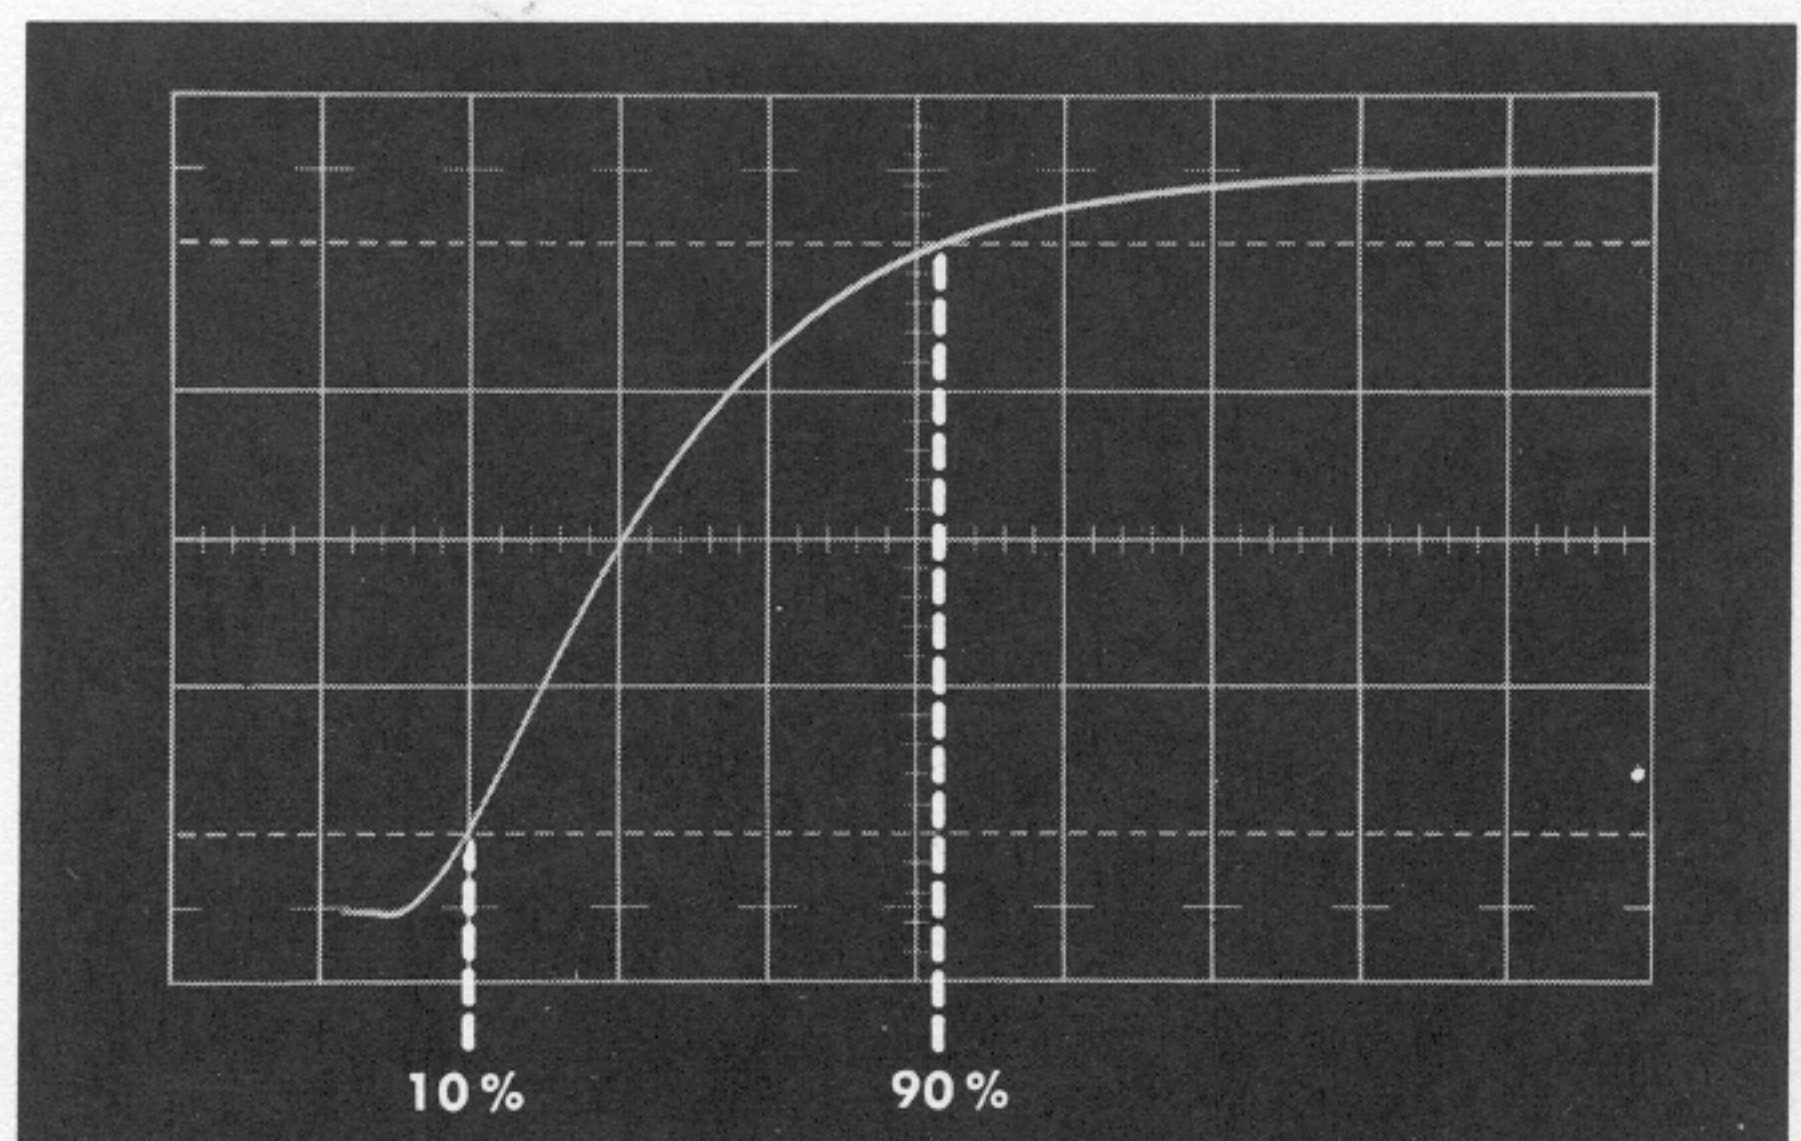

Fig. 5-26. Typical display when checking the risetime.
d. Set the oscilloscope TIME/CM switch to .1 μ s and adjust the TRIGGERING LEVEL control for a stable display, similar to the one illustrated in Fig. 5-26.
- e. **CHECK**—The risetime of the display as shown in Fig. 5-26. Risetime should be between $0.27\ \mu\text{s}$ and $0.35\ \mu\text{s}$ as measured between the 10% and 90% amplitude levels of the rising portion of the waveform.